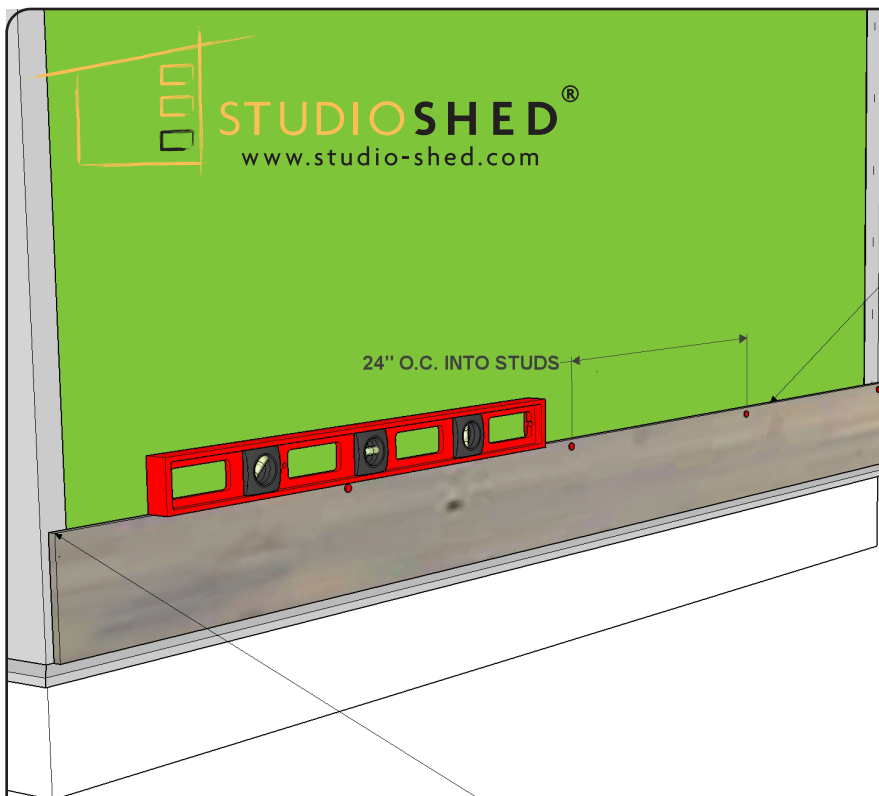

Fig 6a:
SECURE PANELS USING METHODS DESCRIBED IN FIG 6a-6b.
INSTALL SIDING PLANKS AROUND THE DOOR(S) BY WORKING FROM THE BOTTOM AND OUT FROM THE DOOR CASING. FOLLOW THE STEPS, IN THIS GUIDE, OUTLINED IN FIG 6a-9b.
NAIL THE TOP OF THE SIDING PLANK BY FOLLOWING NAILING SCHEDULE SHOWN DURING FIG 6a.